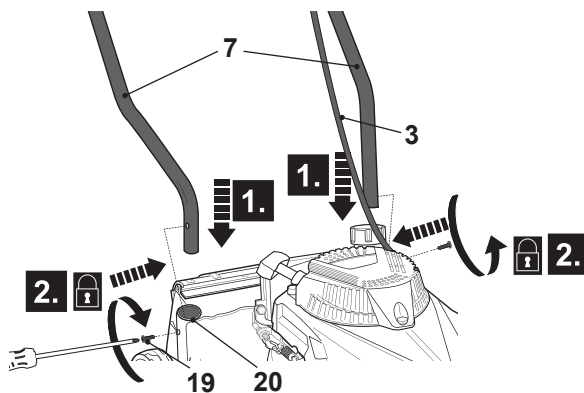

Fig. 1
2. Insert the lower handle bars (7) into the handle supports (20). Align the mounting holes of the lower handle bars (7) and the handle supports (20) (Fig. 1, step 1).
3. Secure the lower handle bars (7) with the handle support screws (19) using the suitable screwdriver (not delivered) (Fig. 1, step 2).
4. Make sure the brake wire (3) run on the upper side of the lower handle bar (7).